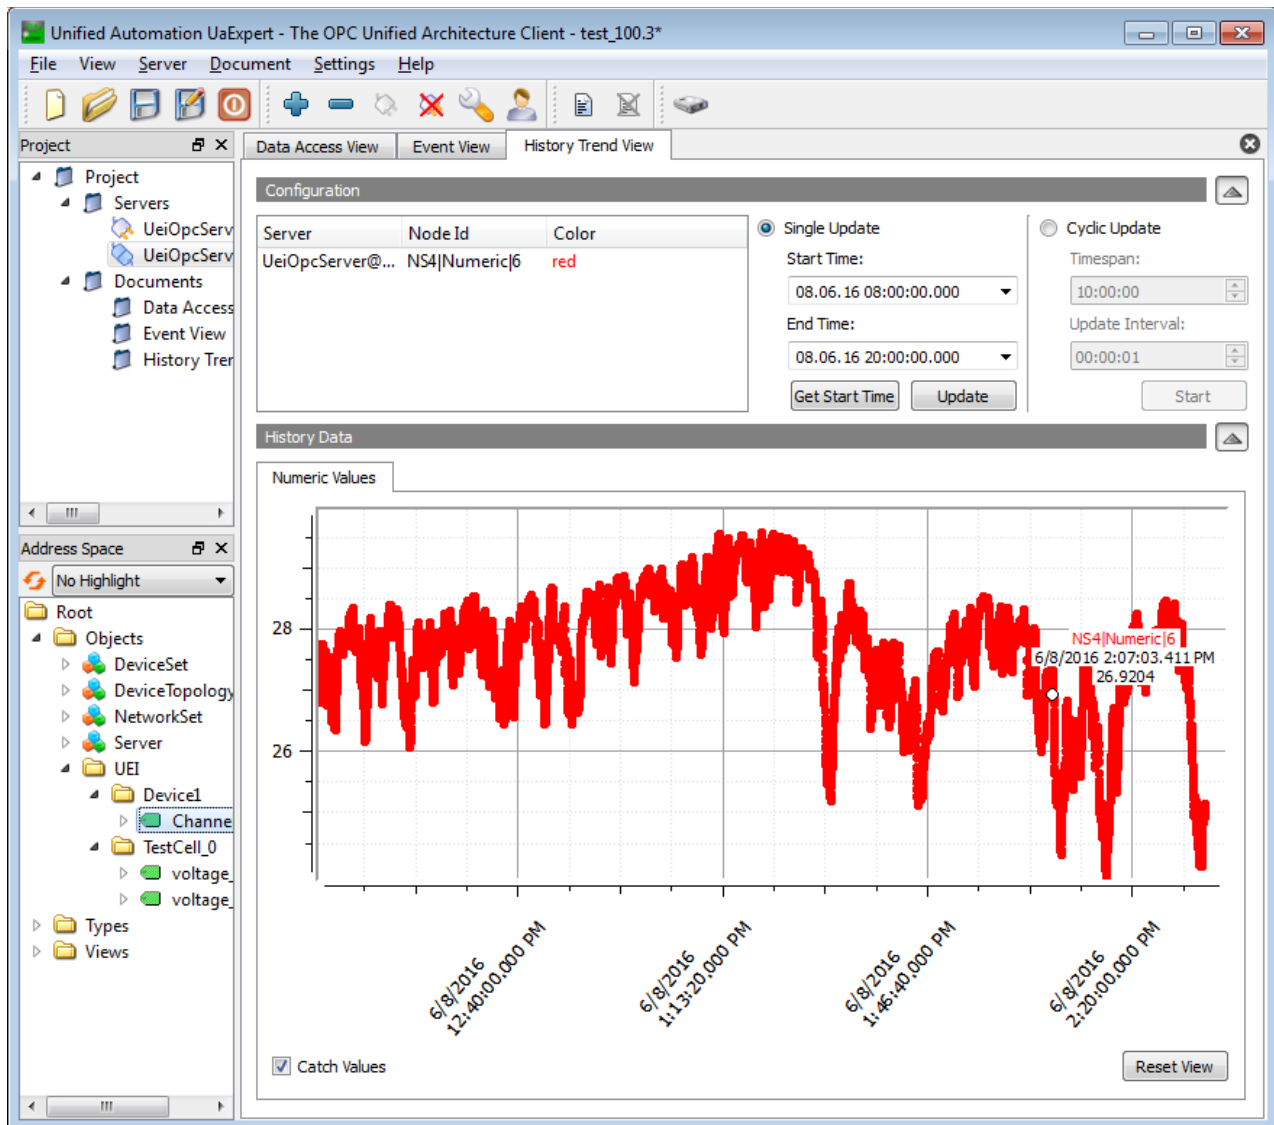

Figure 15 Data Displayed in the History Trend View
9. Drag and drop the channel node to the “Configuration” box, and click **Update** to view the data (refer to Figure 15).